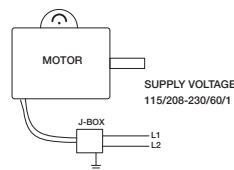

Figure 3 — Typical Wiring Diagram
1. Connect power in accordance with the NEC and all local codes. Refer to Figure 3 for the wiring diagram.